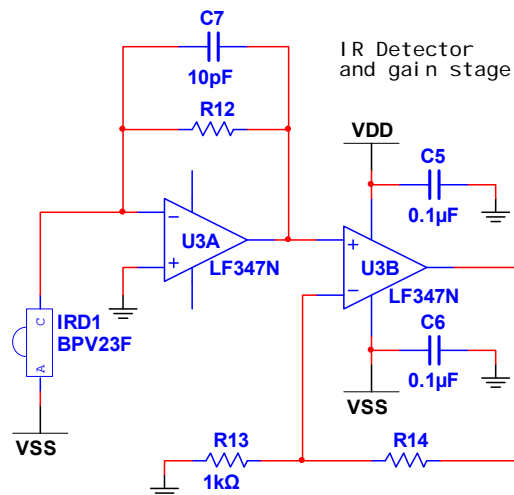

Figure 5-2 – First two gain stages.
In the previous lab we discussed a basic circuit topology for detecting an infrared pulse train using a photodiode. The circuit shown in Figure 5-2 is essentially the same trans-impedance amplifier circuit that we discussed, followed by an additional non-inverting amplifier. Since the gain-bandwidth product of our op-amps is somewhat limited, we must use a number of small-gain sections rather than a single high-gain section. However, for preliminary testing with the transmitter close by, gain will not be an issue so we will construct our circuits with a rather low-gain to start, and then substitute different values for the critical resistors later. Also, we note that we have chosen the LF347 quad op-amp IC since we will end up using seven different op-amp stages in this receiver.
- Construct the circuit in Figure 5-2 using the LF347. Consult the datasheets on the course web site for the pin assignments for the LF347 and the photodiode. Here Vdd is the positive supply and Vss is the negative supply. The circuits in this lab were designed to operate at +/- 12 V, but should work reasonably well at lower voltages as well. Be sure to include the bias decoupling capacitors. Start with R12=47 kΩ and R14=1 kΩ.